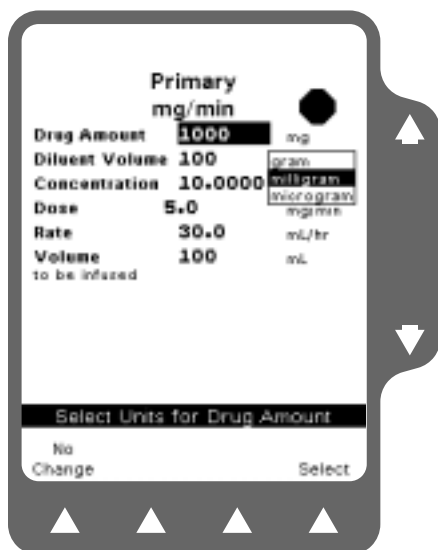

Figure 5-8 Units Change List
- a. Press the **Units** soft key to display the Units Change list (Figure 5-8).